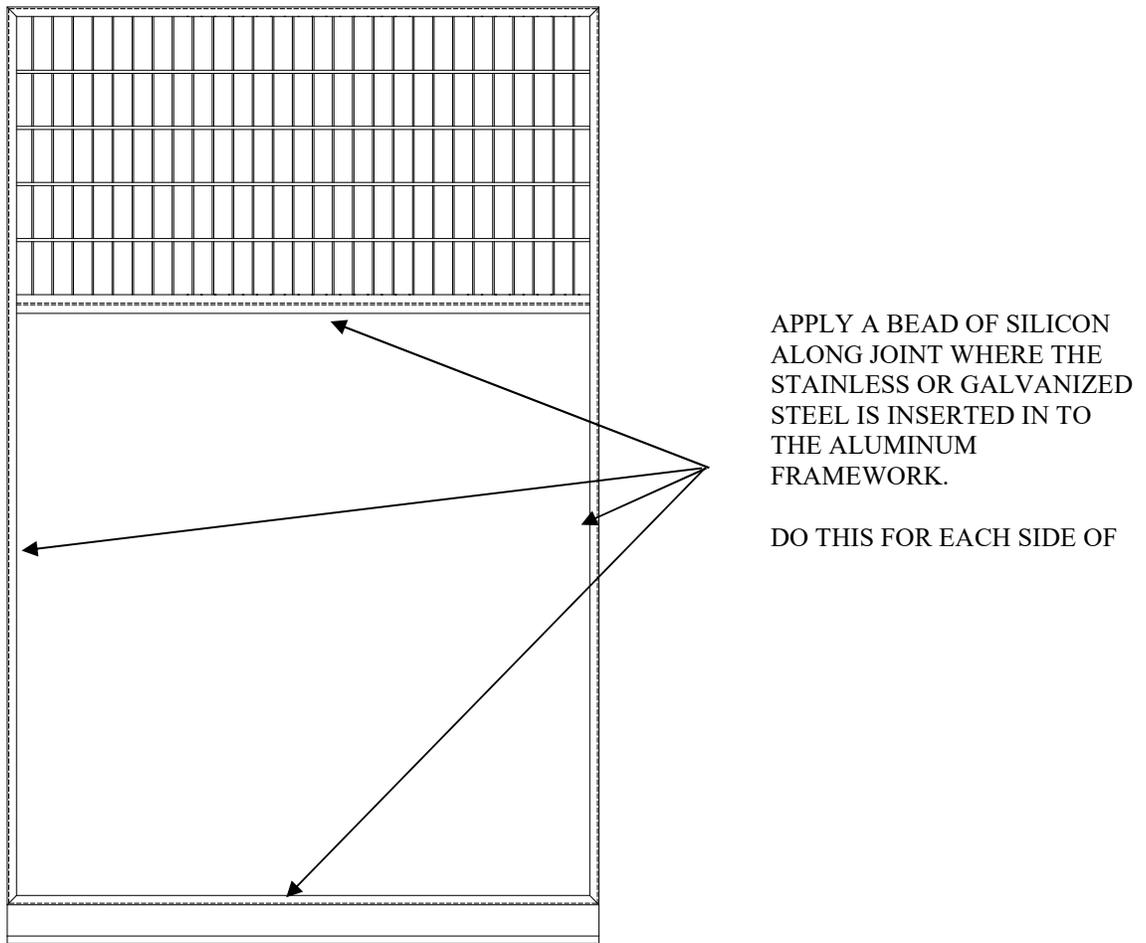

Figure 17
3. If your system is built with Stainless Steel or Galvanized Steel panels you will need to seal the perimeter of the stainless steel on both sides of the panels. Apply a thin bead and wipe away excess with denatured alcohol applied to a shop rag. Refer to Figure 17